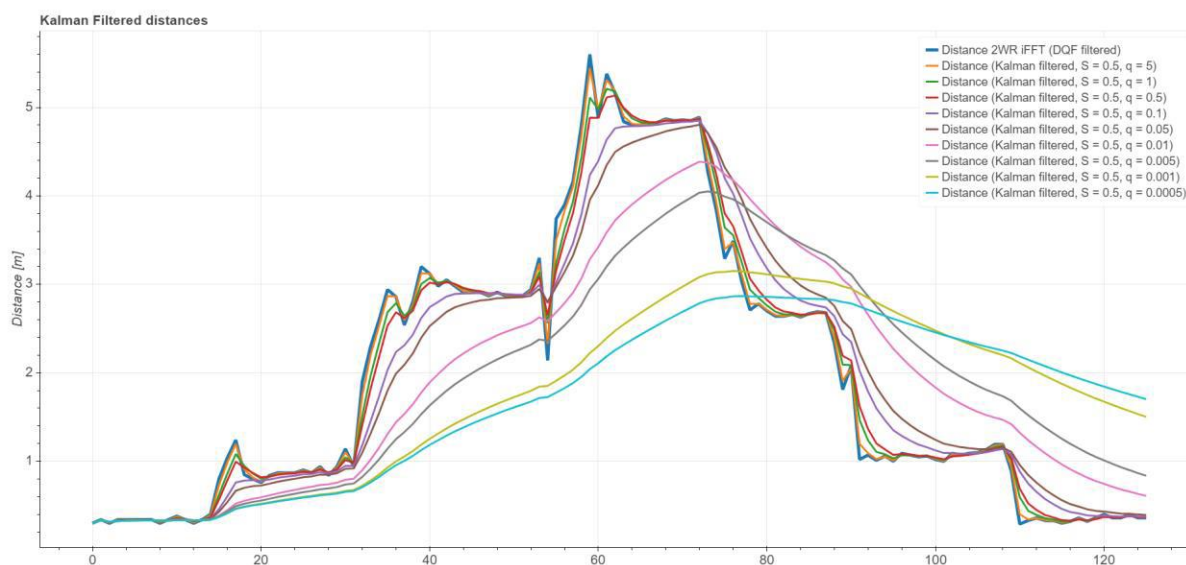
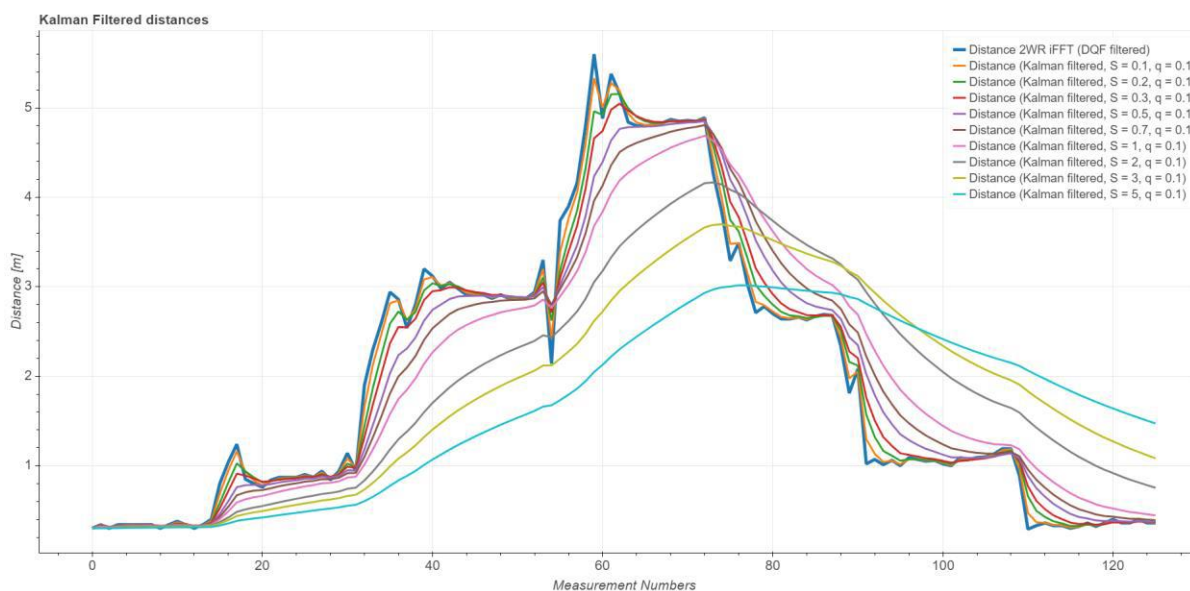

Figure 5: Influence of Process Noise Variance in Kalman's Filter Responsiveness
Figure 6: Influence of Measurement Noise Variance in Kalman's Filter Responsiveness
- **Kalman filter:** An algorithm that uses a series of measurements observed over time, containing statistical noise and other inaccuracies, is applied to produce estimates of unknown variables that tend to be more accurate than those based on a single measurement, by estimating a joint probability distribution over the variables for each timeframe. There is a tradeoff between responsiveness and smoothing of the output of the Kalman filter, that can be controlled by variance process noise (q) and variance measurement noise (S) parameters. Visualization of the impact of S and q parameters are shown in Figure 5 and Figure 6.